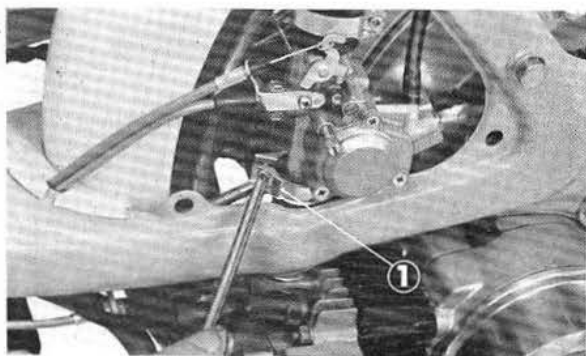

Fig. 2-2 ① Air cleaner connecting clamp
5. Loosen the air cleaner connecting lower clamp, disconnect the fuel tube and then remove the carburetor. (Fig. 2-2)